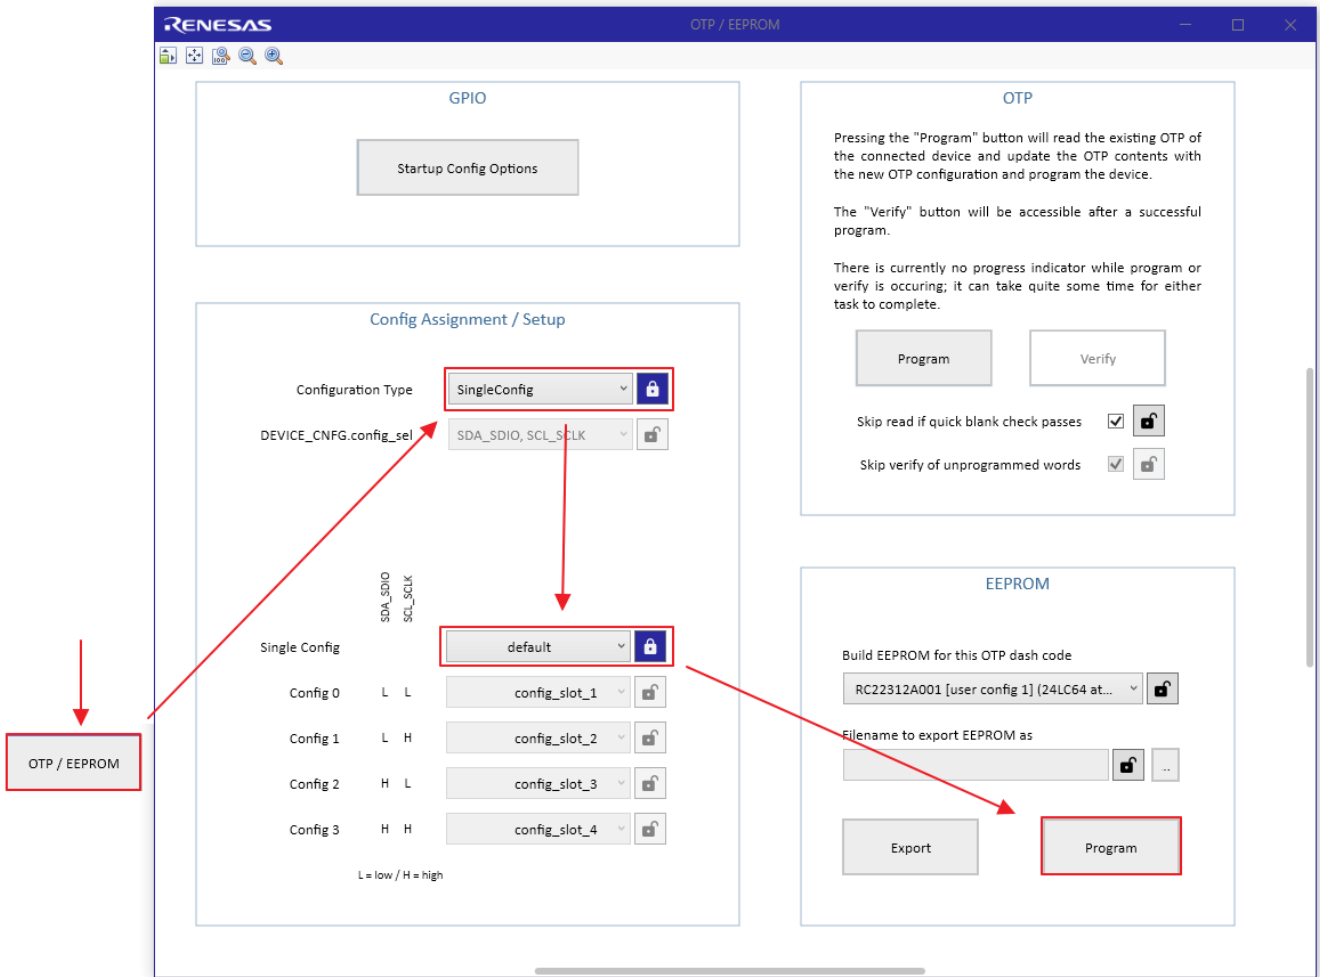

Figure 13. Programming a Connected EEPROM Device
3. Use the **Configuration Type** dropdown menu to select **SingleConfig** (see Figure 13).